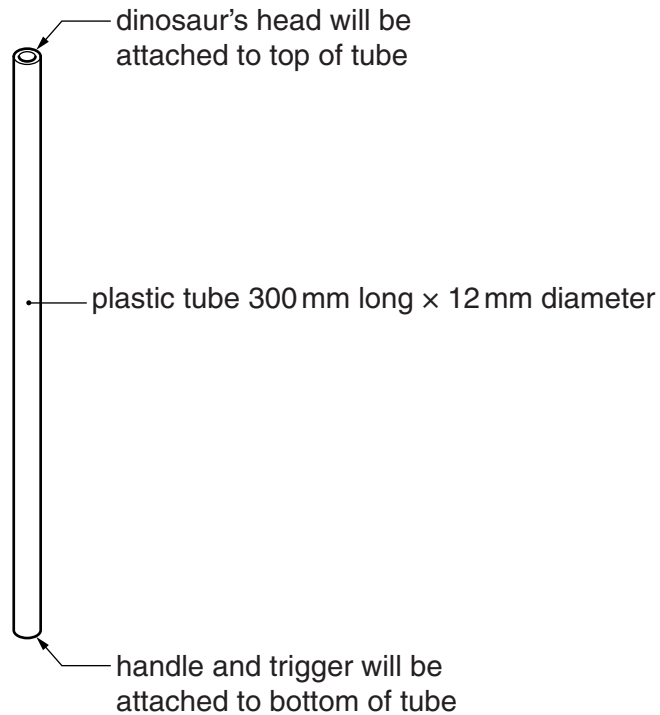

Fig. 9
- 9 Fig. 9 shows an incomplete idea for a child's hand held mechanical toy.